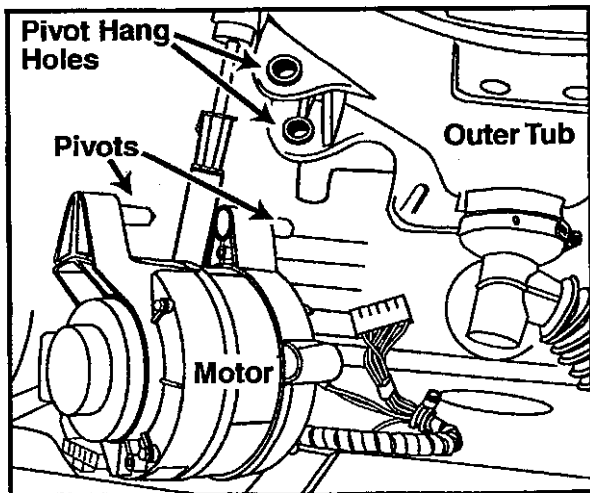

Figure 8-3
- Lift the motor slightly to disengage the belt from the motor pulley. Grasp the motor and slide it carefully from the pivot hang holes in the outer tub. Place motor on the base frame (*Figure 8-3*).